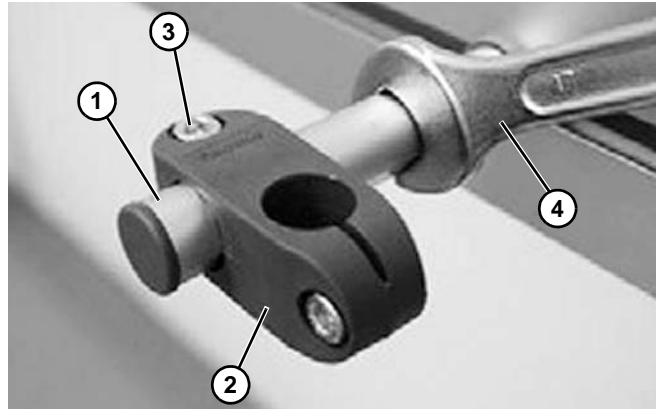

Figure 80
- Attach the guide rail (Figure 80, item 1) to the clamp (Figure 80, item 2). Tighten the screw (Figure 80, item 3). Remember, do not over tighten the screw.
- Use a wrench (Figure 80, item 4) to tighten the guide rail to the frame. Remember, do not over tighten the screw. Install remaining brackets.